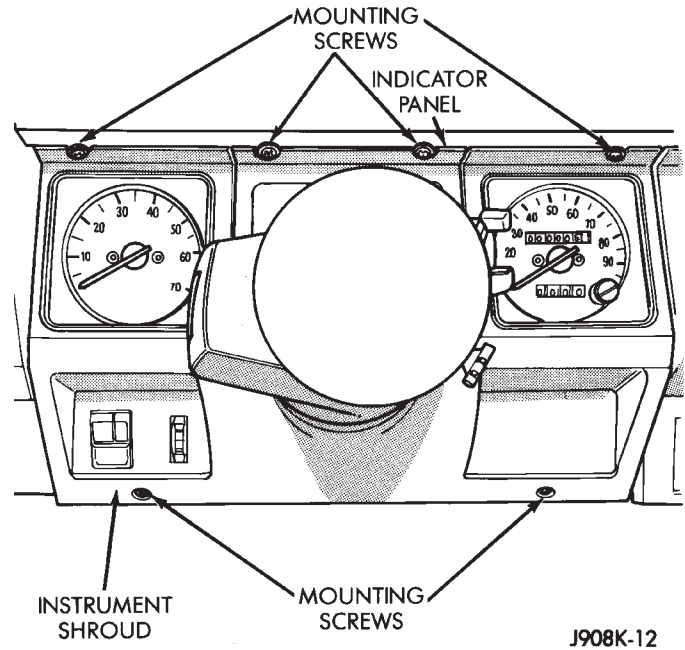
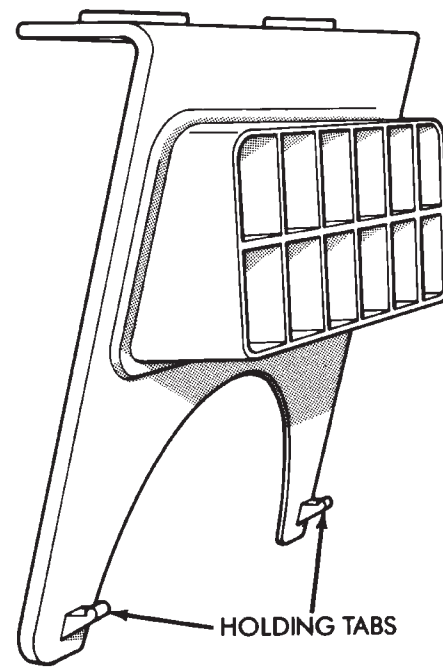
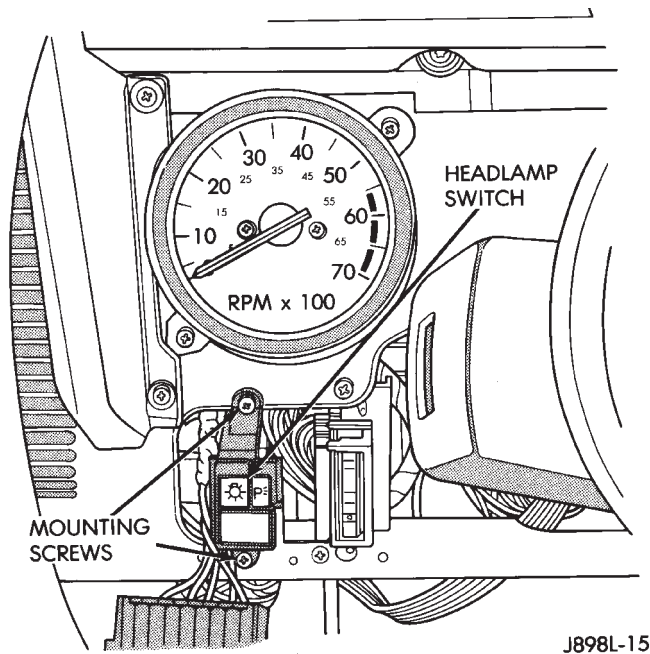

Fig. 9 Instrument Panel Shroud—YJ Vehicles
Fig. 10 Indicator Panel Holding Tabs—YJ Vehicles
Fig. 11 Headlamp Switch—YJ Vehicles
- (2) Remove the I/P shroud retaining screws (Fig. 9).
- (3) Move the I/P shroud toward the steering wheel.
- (4) Apply upward force to the I/P shroud and downward force to the indicator panel. This will release the indicator panel holding tabs (Fig. 10).
- (5) Remove the shroud from the instrument panel.
- (6) Remove the headlamp switch retaining screws (Fig. 11).
- (7) Disconnect the headlamp switch wire harness connector.
- (8) Remove the headlamp switch from the instrument panel cavity.